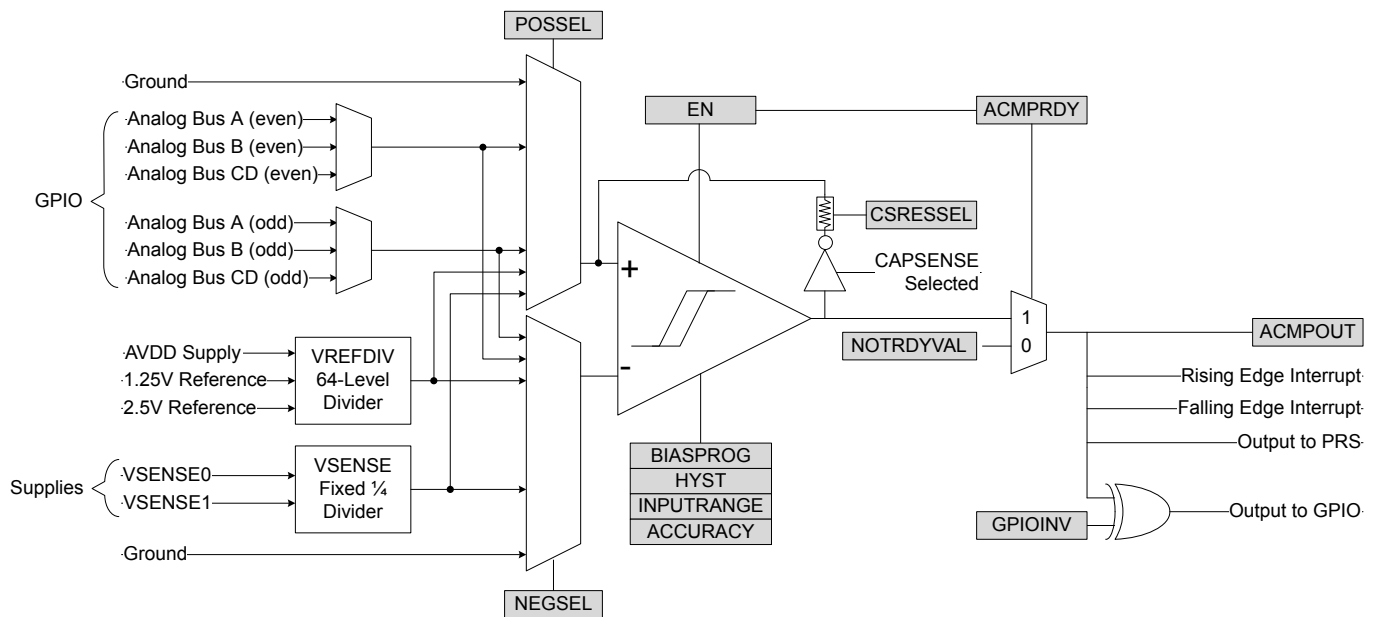

Figure 22.1. ACMP Overview
An overview of the ACMP is shown in Figure 22.1 ACMP Overview on page 609.
The ACMP can be used to monitor supply voltages. This is done by selecting VSENSE01DIV4(LP) or VSENSE11DIV4(LP) for either POSSEL or NEGSEL. Note that the input to the comparator core will be divided by 4, as illustrated in Figure 22.1 ACMP Overview on page 609. To reduce energy consumption, a sample/hold circuit can be used to periodically sample the power supplies. To enable this, select VSENSE01DIV4LP or VSENSE11DIV4LP in POSSEL / NEGSEL. Because the sample/hold feature uses the comparator in a non-continuous fashion, enabling this will increase response times and reduce the accuracy of the comparator. The connections between VSENSE0 and VSENSE1 to power supplies are summarized in Table 22.2 VSENSE connections on page 611.